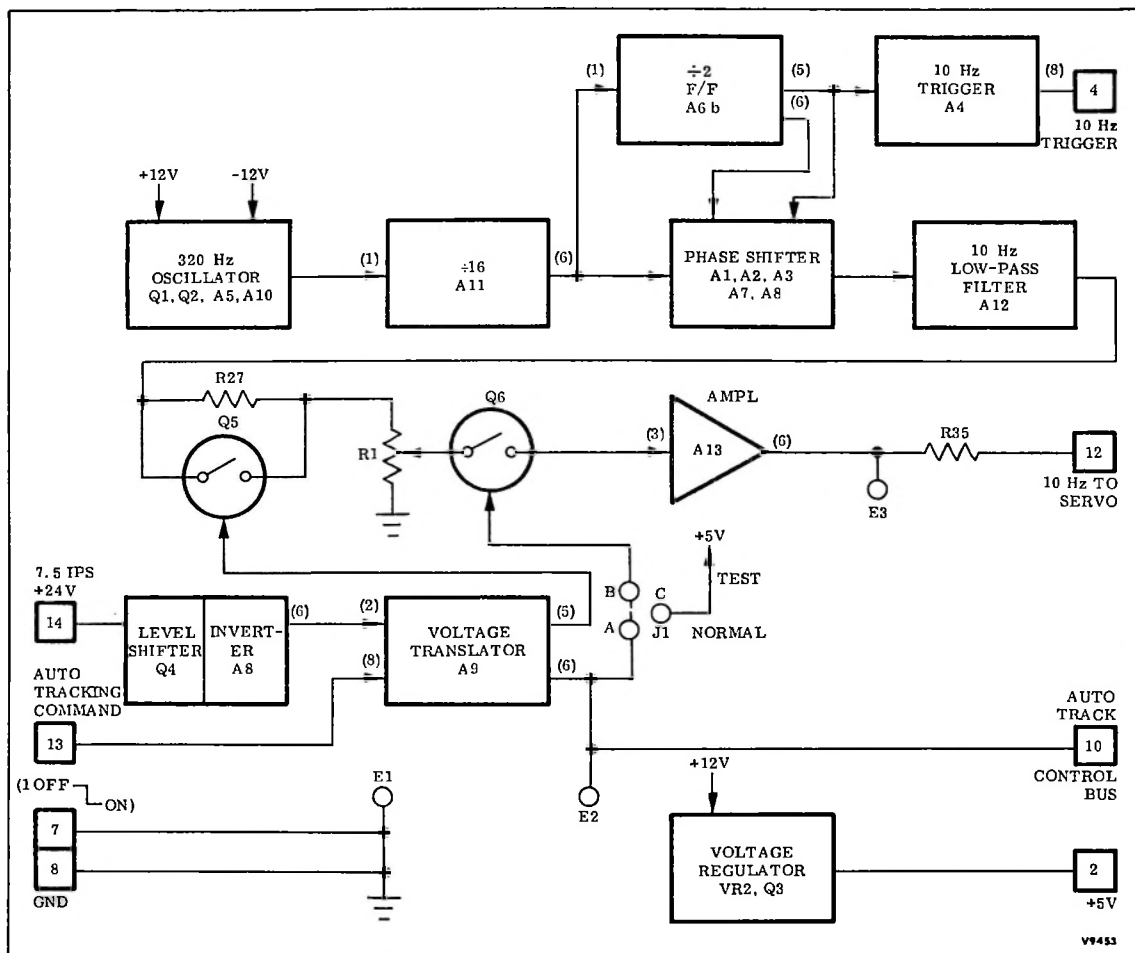

Figure 4-2. Auto Tracking Oscillator and Control Functional Block Diagram
reference for the auto tracking sweep generator and control circuitry. It is also the +5-volt source for all three auto tracking boards. The auto tracking oscillator and control circuitry consists of the following circuits: (1) 320-Hz oscillator; (2) divide-by-16 counter; (3) phase shifter A1, A2, A3, A7, A8; (4) 10-Hz low-pass filter A12; (5) 7.5-ips level control; (6) signal switcher Q6; (7) amplifier A13; (8) 10-Hz trigger A4; (9) level shifter Q4; (10) inverter A8; (11) voltage translator A9; (12) voltage regulator VR2, Q3; and associated components. Figure 4-2 depicts a functional block diagram of the auto tracking oscillator and control circuitry.